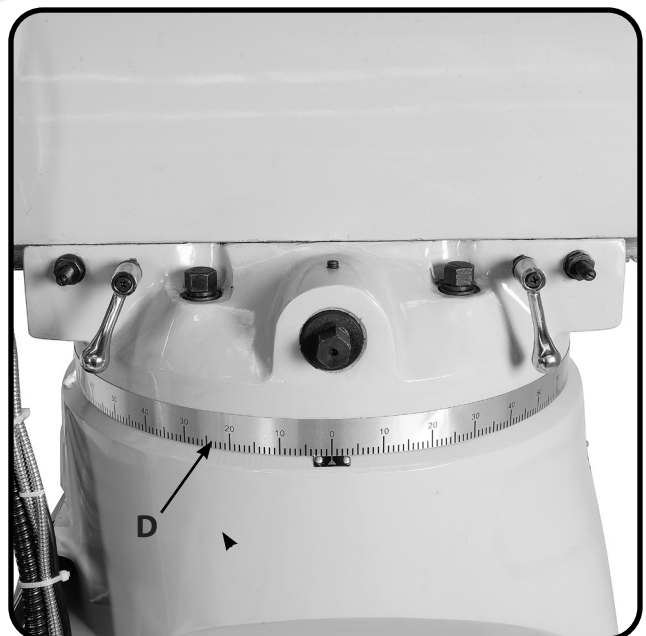

Fig. 26
3. Push head to manually rotate ram. Use rotation scale (D on Fig. 26) to determine correct position for your operation, then re-tighten four lock bolts to secure ram in place.
The milling machine is equipped with a "one-shot" lubrication system. The system lubricates the lead screws and ways. Grease cups on the mill head provide lubrication for the spindle bearings and back gear mechanism. Refer to Fig. 26 for lubrication requirements and Fig. 28 for lubrication points.